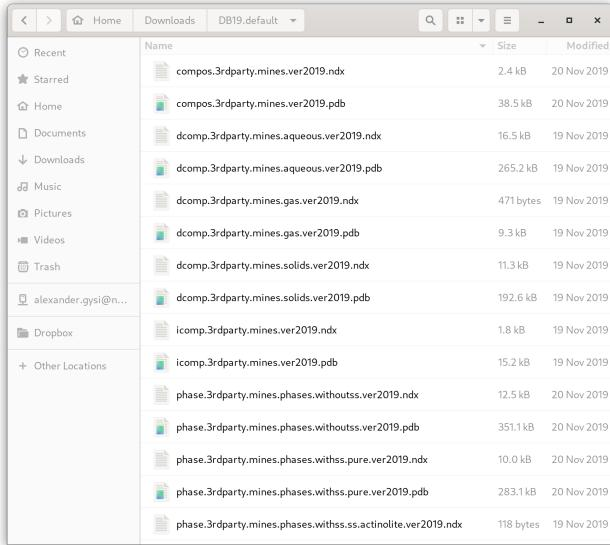

Figure 1.2: Unzipped DB19.default folder and database files to copy.
- Download and unzip the DB19.default archive folder to Downloads. Select all the database files in this folder and copy them (Fig. 1.2).
- In the next window, you can choose the thermodynamic database for your project. Select the database files 3rdparty/MINES and support, then deselect other databases as shown in Figure 1.2. Click **Next**.